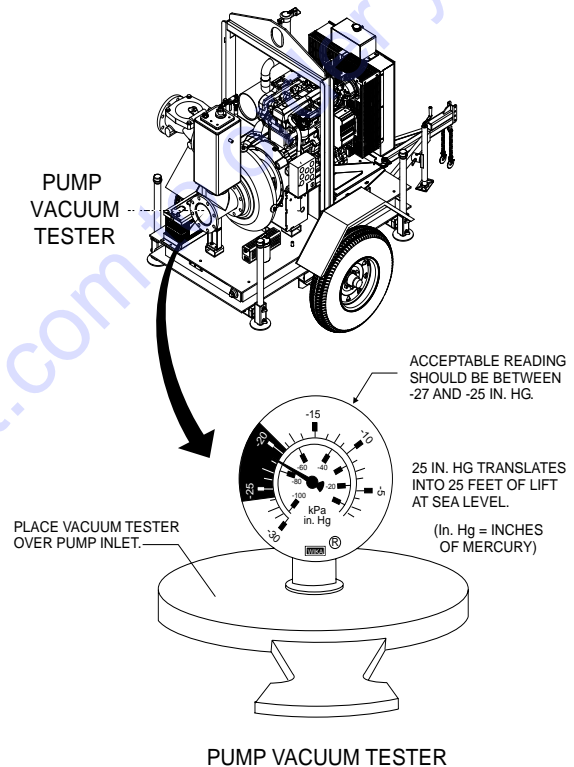

Figure 38. Dry Pump Vacuum Test
- Block the suction with a plug or heavy rubber flap as shown in Figure 38. An accurate vacuum gauge should be installed in the plug or flap to check vacuum system performance and pump vacuum gauge.